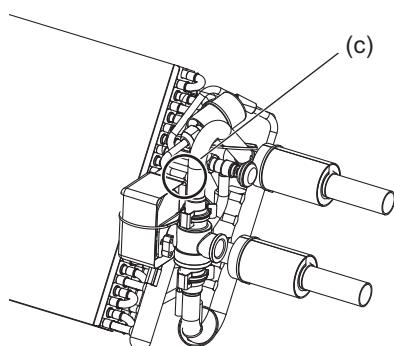

Fig.17
(1) Debraze the brazed portion of the pressure sensors in the (Fig.17, 18) and then replace the pressure sensors with service parts.